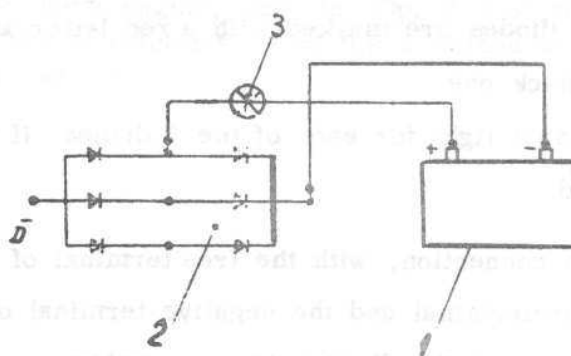

Fig. 4.42. CONNECTION DIAGRAM FOR CHECKING DIODES (TOWARDS THE ALTERNATOR TERMINALS) FOR UNINTERRUPTED CIRCUIT.
a) Connect negative terminal of the battery to the "B +" alternator terminal and the free terminal of the test lamp, in turn to the three terminals of the diode-holder assembly (see fig. 4.42).